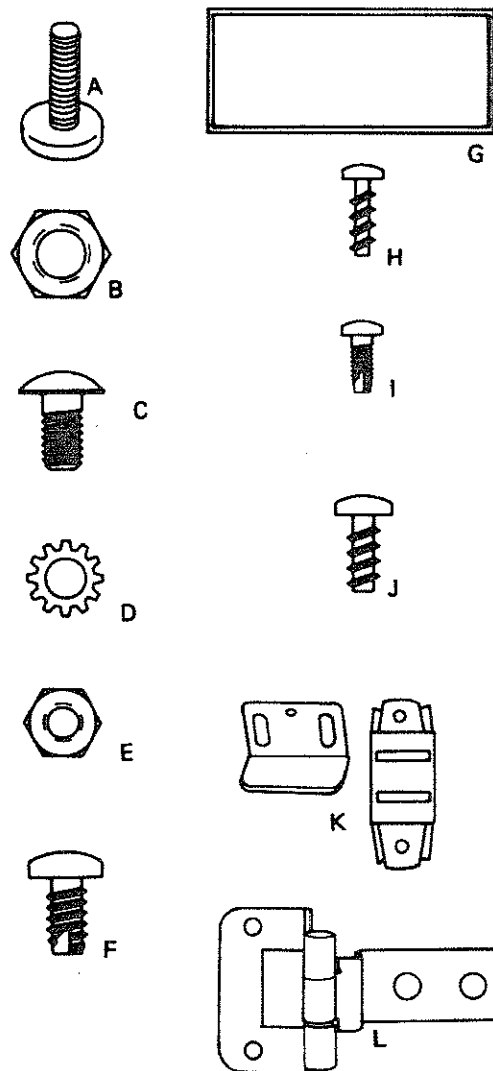

Fig. 2 - Loose Parts
2. Open the loose parts bags, and sort the contents into piles on the floor or table. This will make it easier for you to find the part(s) you need during assembly. (See Fig. 2)